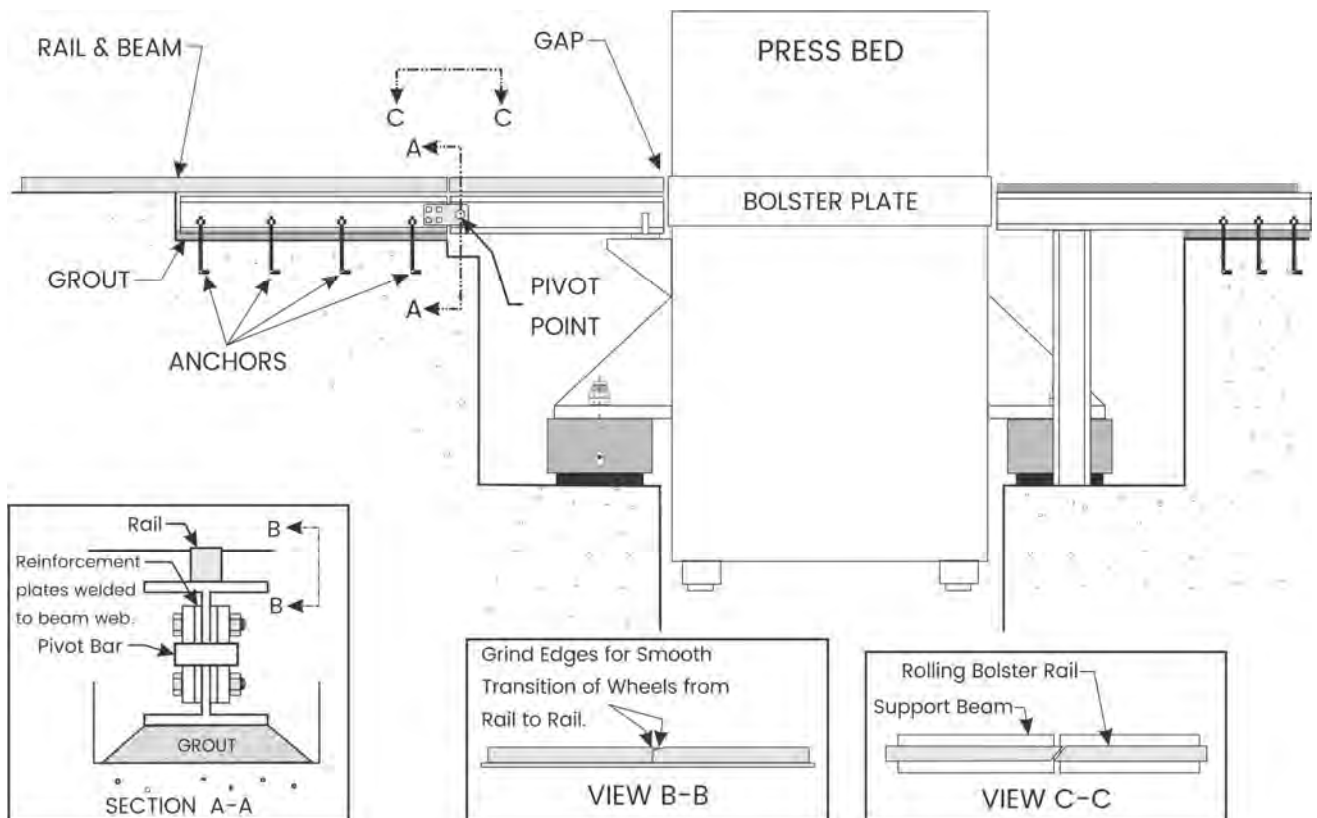

Figure 9
2. METHOD TWO (Figure 9)
- In this method, each rolling bolster beam is divided into two. One section is anchored to the floor and the other is hinged and designed to float with the press. The ends of the floating sections are supported by pivot points located at the edge of the pit and on the press bed as shown in Figure 9. The ends of the beam/rails are restricted from moving horizontally using guide pins and clearance holes or stops welded on the support shelf to contain the sides of the beam/rails.